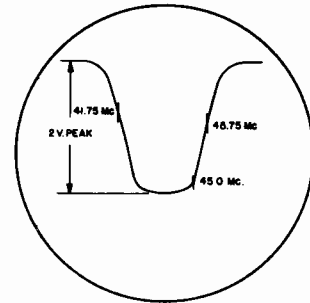

Fig. 11 Overall IF Response
11. With the test equipment set up as in Step 10, alternately adjust the 1st IF transformer and the converter plate coil until an overall response curve similar to Fig. 11 is obtained. If the proper response curve cannot be obtained, it may be necessary to retouch the 4th IF coupling adjustment or make a slight readjustment of the other stages to obtain the correct overall response curve.